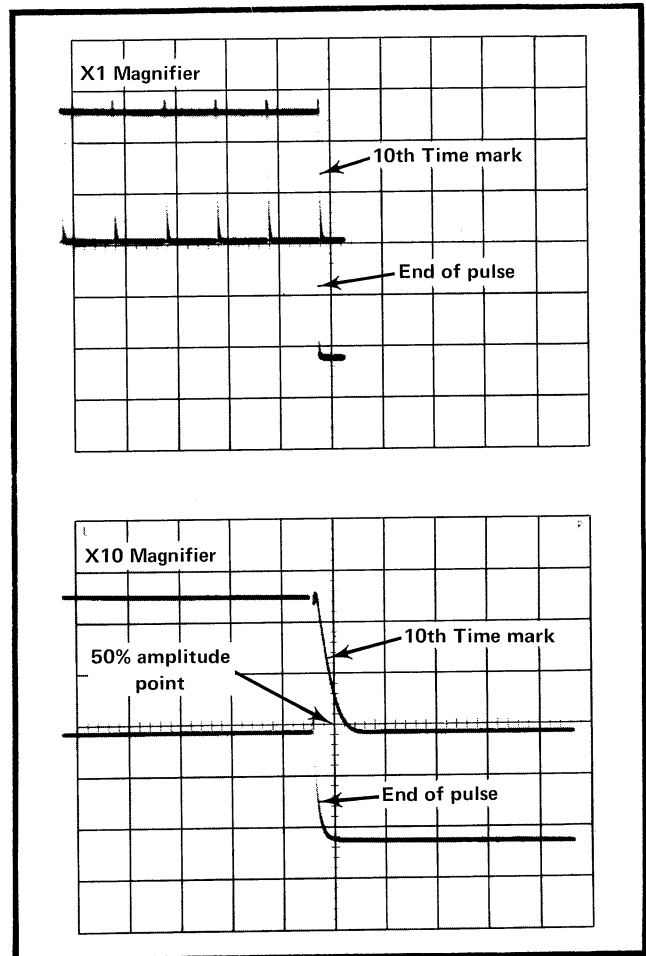

Fig. 5-6. Typical displays of Output Pulse and Time Marks for adjusting 100 μ s Pulse Duration.
- Display the Output Pulse and Time Marks as shown in Fig. 5-6.